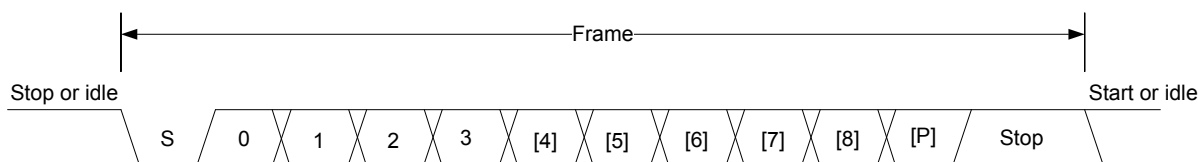

Figure 22.2. EUART Asynchronous Frame Format
The frame format used by the EUART consists of a set of data bits in addition to bits for synchronization and optionally a parity bit for error checking. A frame starts with one start-bit (S), where the line is driven low for one bit-period. This signals the start of a frame, and is used for synchronization. Following the start bit are 4 to 9 data bits and an optional parity bit. Finally, a number of stop-bits, where the line is driven high, end the frame. An example frame is shown in Figure 22.2 EUART Asynchronous Frame Format on page 632.